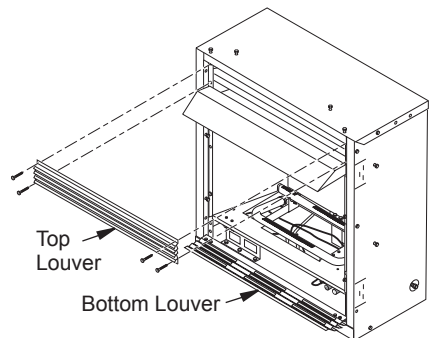

Figure 16 - Removing Top Louver and Opening Bottom Louver
2. Remove 4 screws from upper louver (see Figure 16). Save these screws.
4. Open lower louver door by swinging door down (see Figure 16).
10. Reinstall upper louver beginning with bottom screws (see Figure 16, page 13). Close lower louver door.
6. Reinstall upper louver beginning with bottom screws (see Figure 16, page 13) and close lower louver.